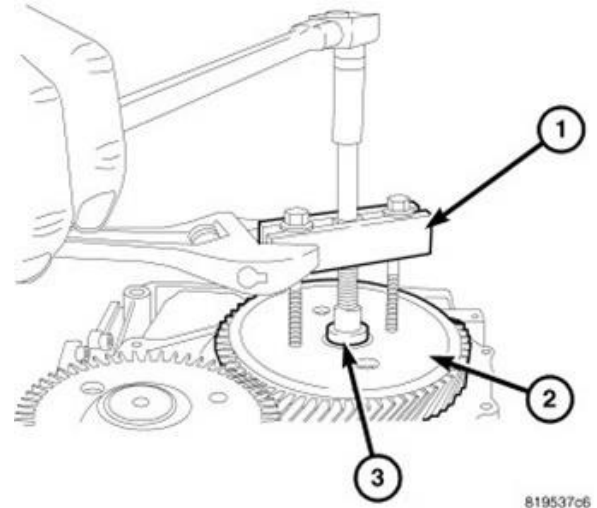

Figure 23 – Transfer Gear Puller
35. Using Gear Puller L-4407A (1) and Thrust Button 6055 (3) release the transfer gear (underdrive compounder side) (2) then remove the gear puller (Figure 23).